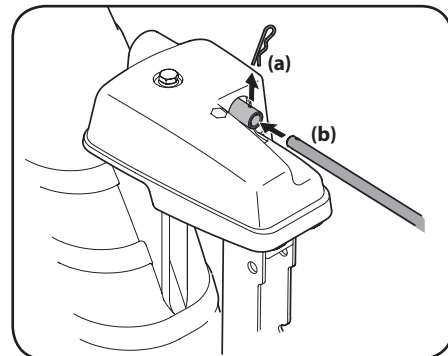

Figure 2-34
5. Remove the cotter pin (a) and insert the chute crank rod (b) into the connector on the chute control assembly. See Figure 2-34.